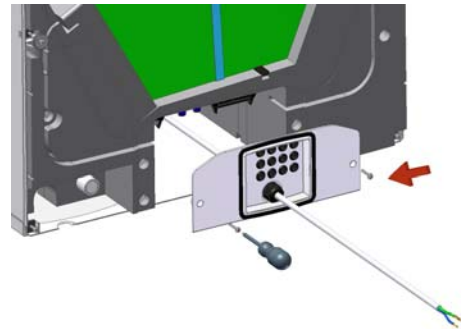

Figure 8: Removing the Cable Inlet Plate (Rear of Unit)
6. Remove the 2 screws and detach the rear Cable Inlet Plate (see *Figure 8*).